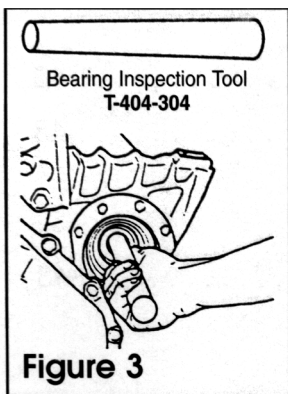

Figure 3
3. Determine if the final drive carrier bearings are tight enough to properly support the final drive. Insert Teckpak Tool T-404-304 into the carrier housing (**Figure 3**).